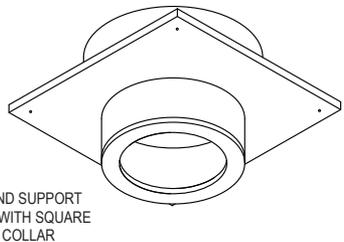

Figure 5
3. Install Support: For installation into a flat ceiling, you need to use the Round Support Box. The Round Ceiling Support Box includes a square Trim Collar (*Fig 5*). The Support Box must extend at least 3 inches below the finished ceiling. (Do not install beyond 4-1/2" below finished ceiling or the trim collar will not cover properly). Level the Support Box and secure it to the framing using at least three 8-penny nails per side (min. of 12 total). Wrap the straps of the Support Box around the framing members (*Fig 4*), and secure with (2) 8-penny nails per side (eight nails total). Alternatively, you may use 1-1/2" #8 wood